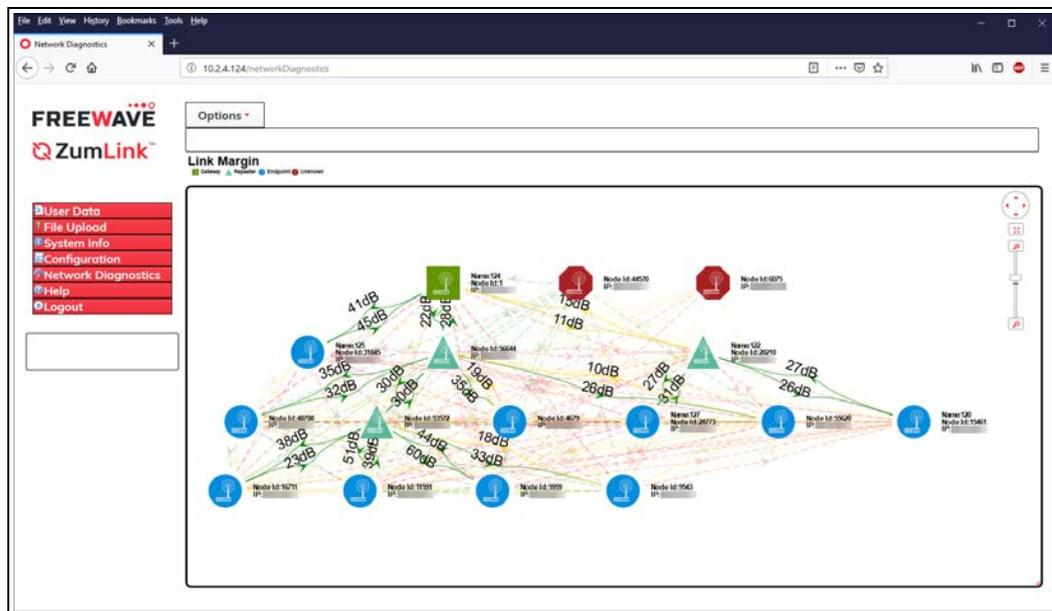

Figure 203: Network Diagnostics window - Margin with Neighbors
- Click the **Options** list box arrow and select the **Margin with Neighbors** option to show the **Margin with Neighbors** connections in the **Network Diagram**. Figure 203